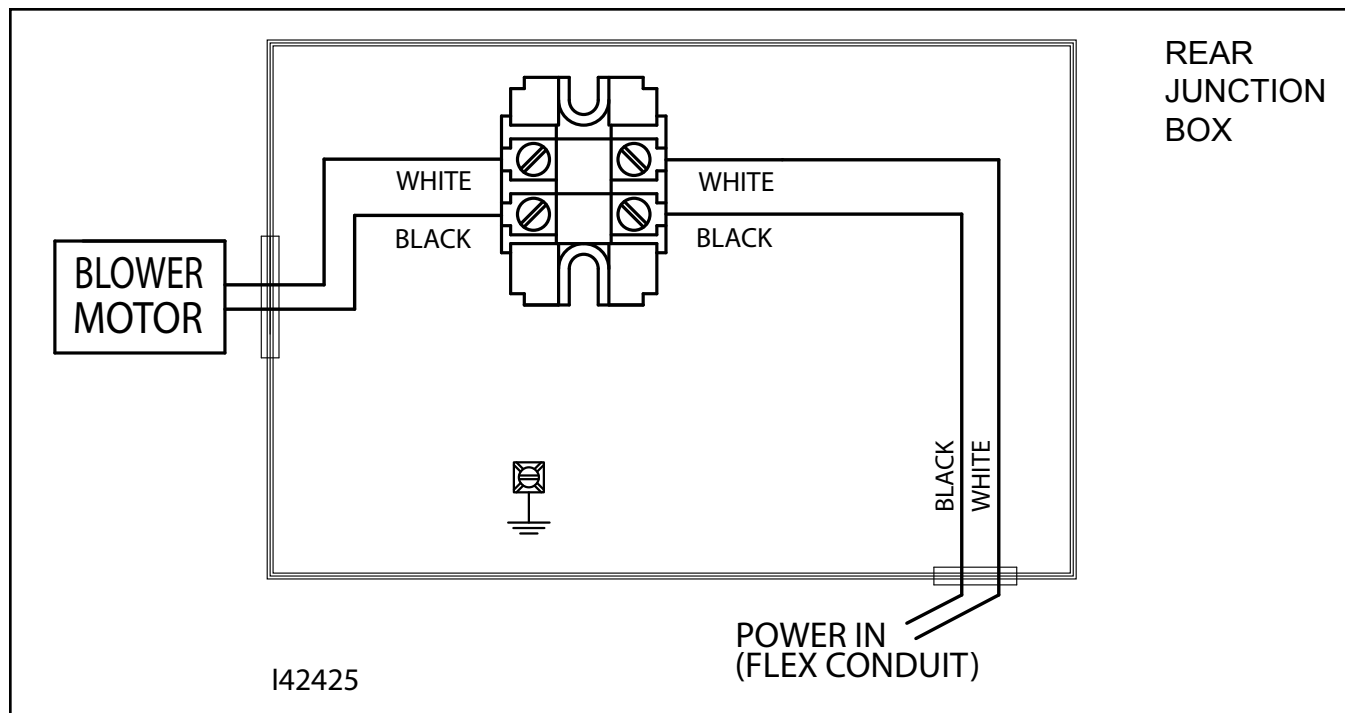

Figure 3D - Detail of Blower Motor Wiring for CB-1750
NOTE: Wiring schematics are provided in Figures 3D and 3E and in Appendix B at the back of the manual.
2. **For CB-1750 furnaces (see Figure 3D):**